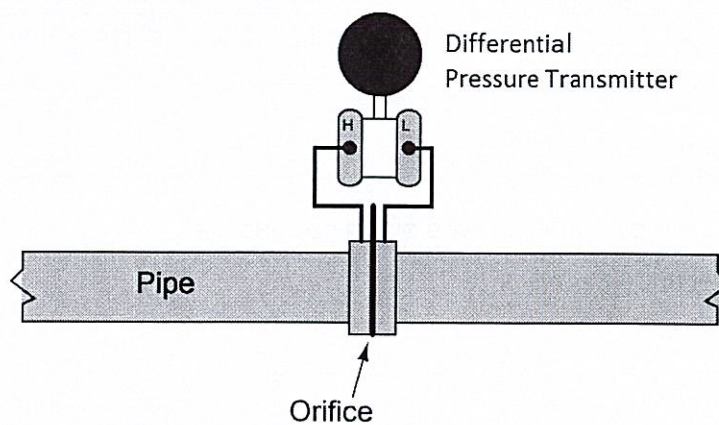

Figure 1
13. The installation as depicted in Figure 1 is suitable for _____.